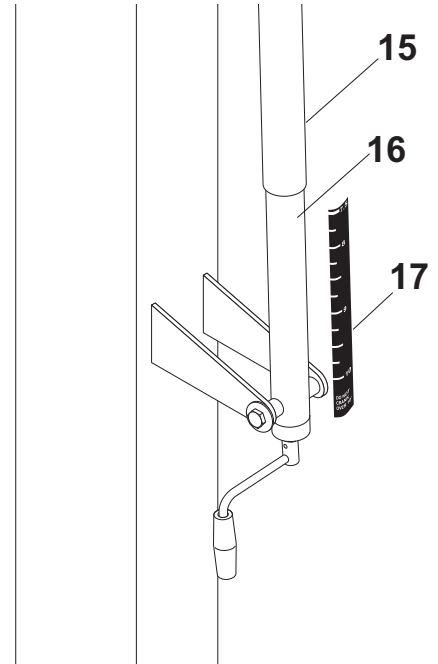

Figure 15
- 21. Adjust unit to 7-1/2 feet. Use a tape measure to measure from the top of the rim to the playing surface. Stick Height Decal (#17) to back of actuator (#16) with the "7.5" mark aligned with bottom of Actuator Sleeve (#15). See Figure 15.